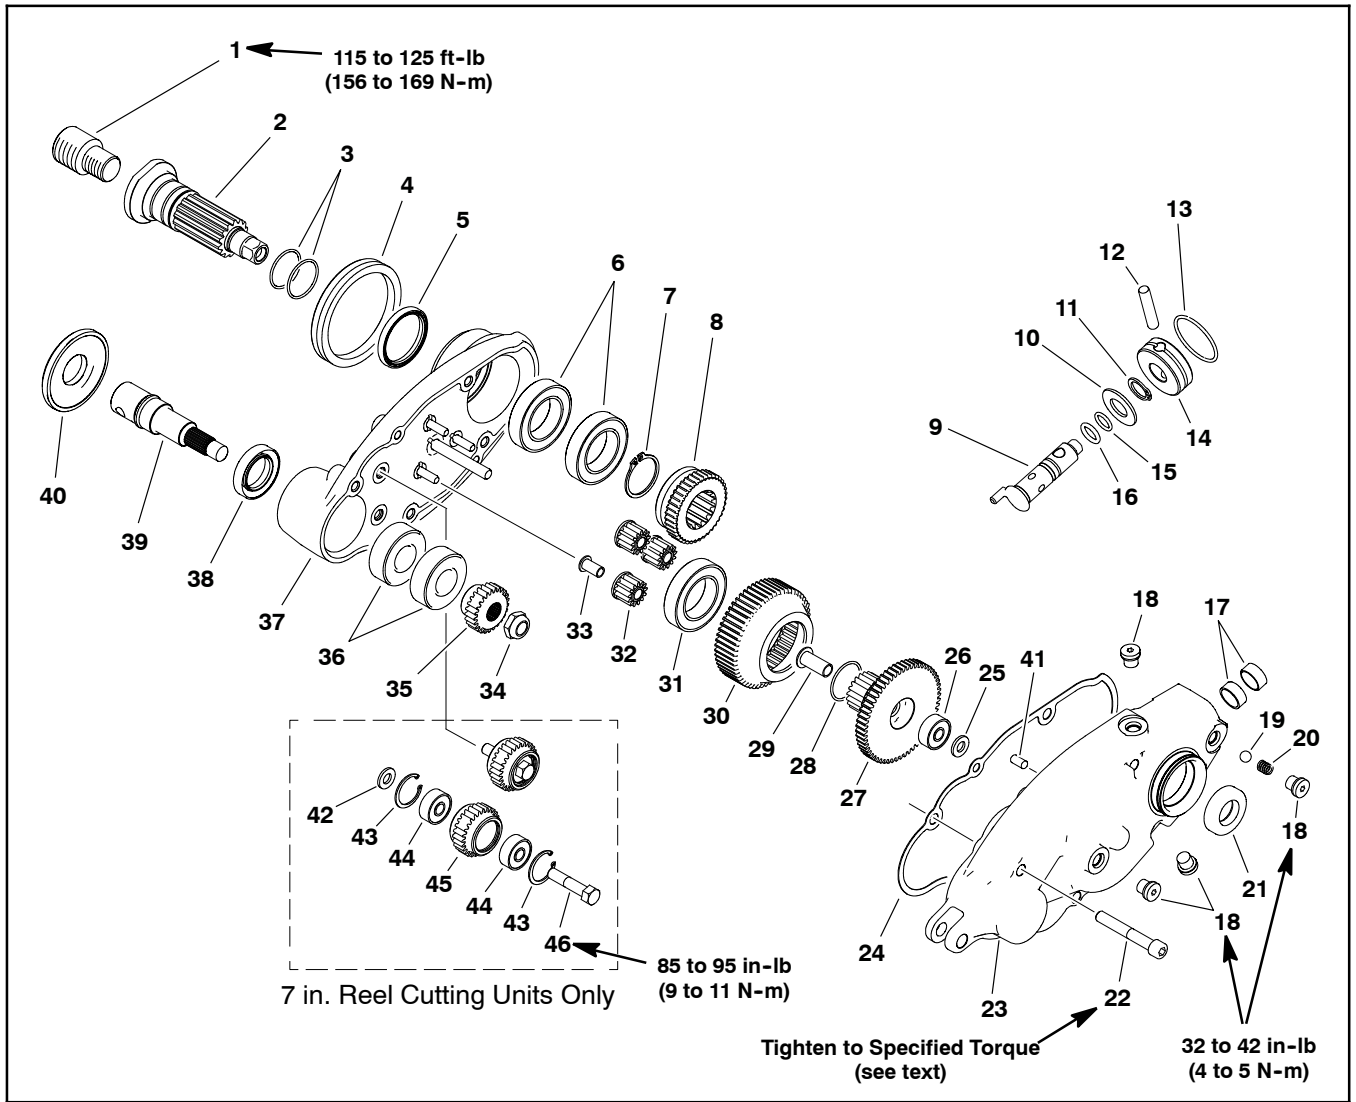

Figure 6
Disassembly (Fig. 6)
1. Remove input shaft adapter (item 1) if necessary.
3. Remove four (4) socket head cap screws (item 22) and separate the gear box cover and housing.
**Assembly (Fig. 6)**